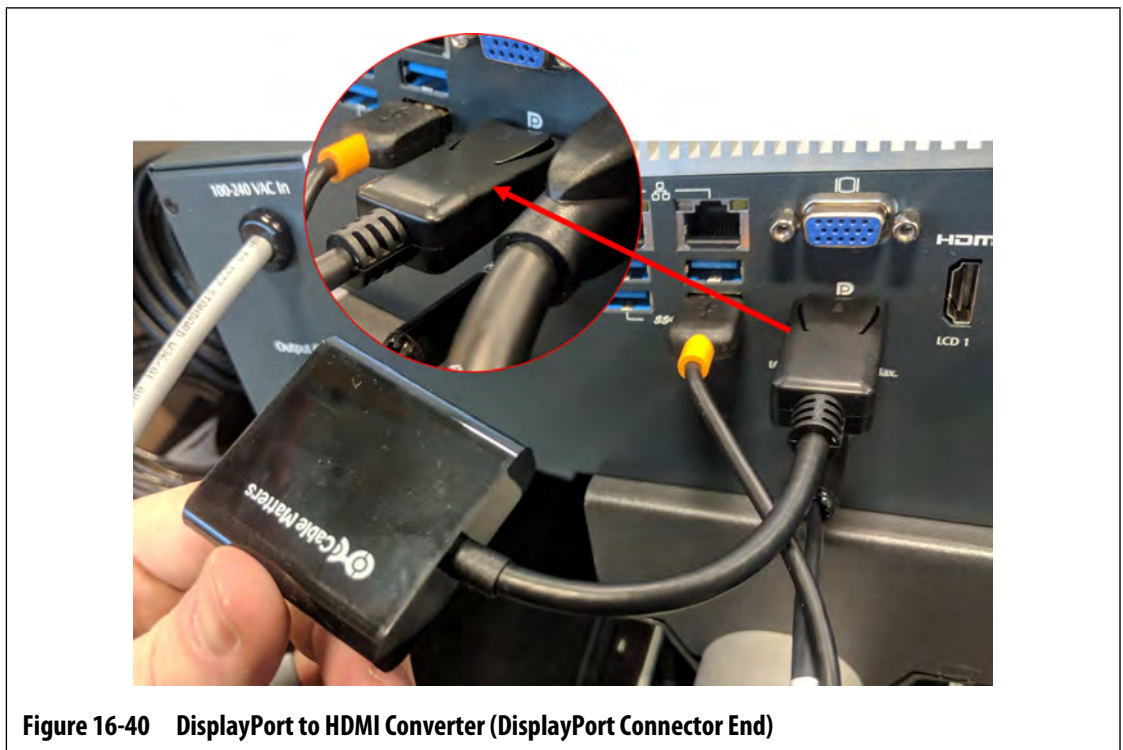

Figure 16-40 DisplayPort to HDMI Converter (DisplayPort Connector End)
5. Connect the DisplayPort to HDMI Converter (DisplayPort connector end) to the DisplayPort connector (behind the VGA connector) on the bottom of the MCU enclosure. Refer to Figure 16-40.